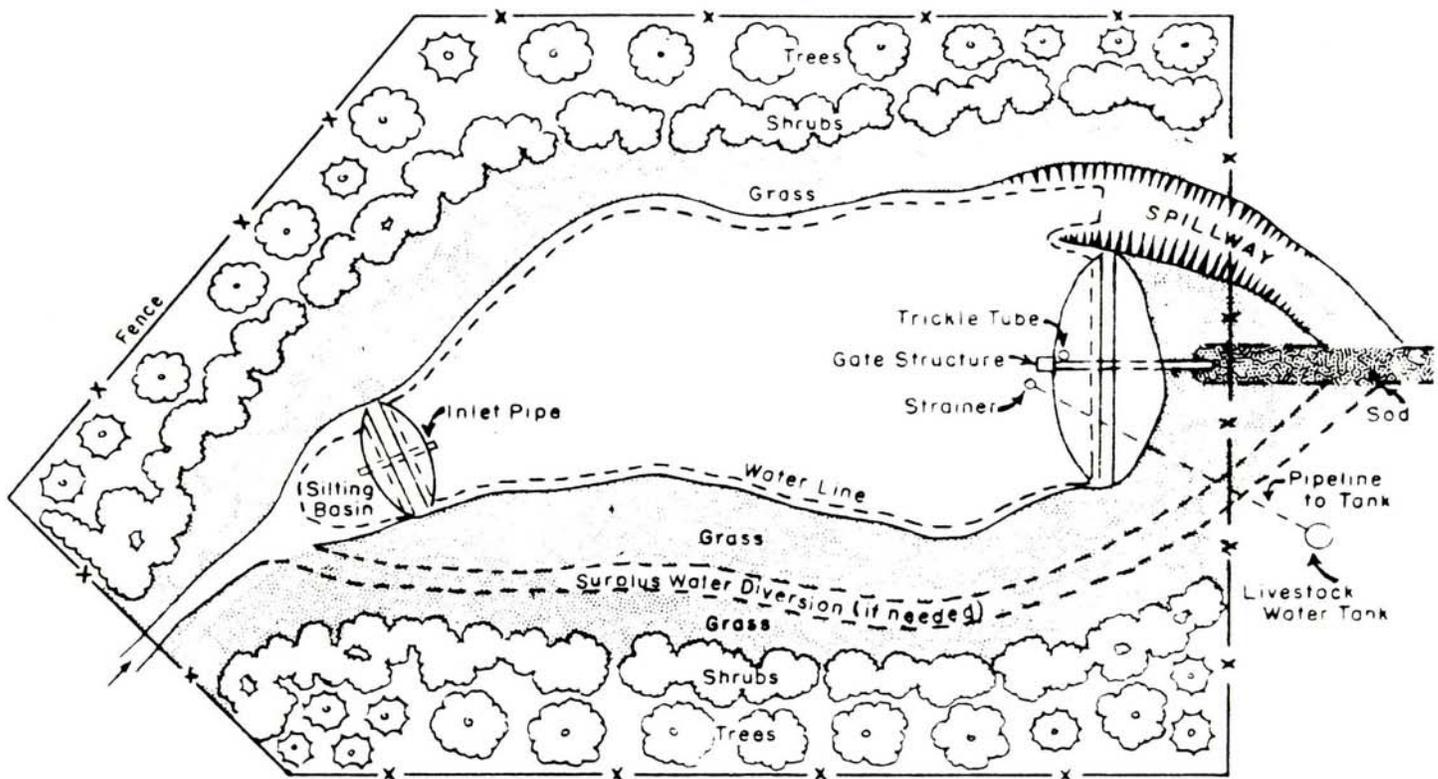

FIGURE 4. - Farm pond lay-out showing location of structures and wildlife planting areas.
B. Plant grasses, trees and shrubs to improve area for wildlife. (Figure 4.)